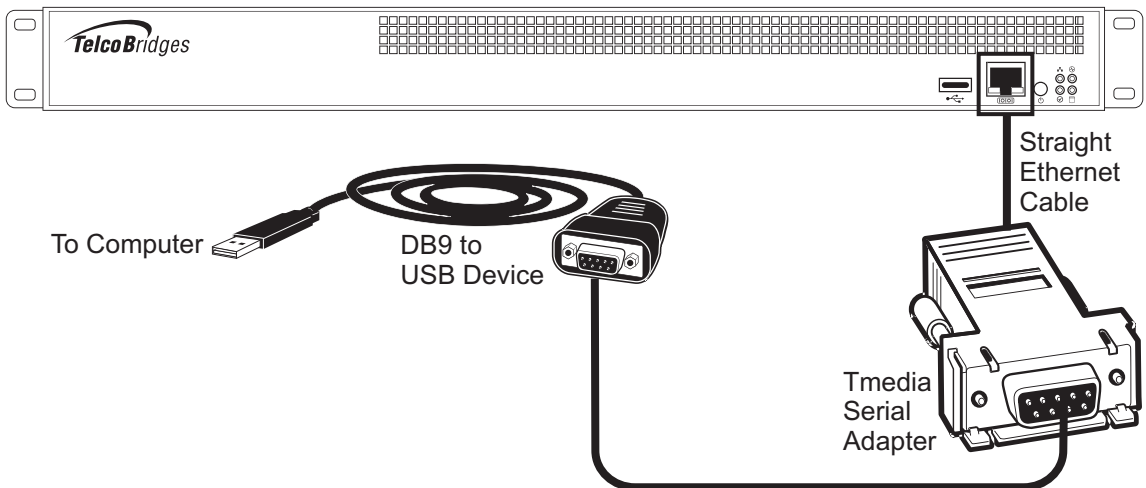

Figure 3.2 Conceptual View of a Serial Connection from the 800 Series Gateway to a Computer
2. If your computer’s serial port features a DB9 connector, use the Tmedia serial adapter supplied with your 800 series gateway. If your computer’s serial port features a USB connector, you will need to provide a USB to DB9 adaptor. Refer to figure 3.2 on page 41.